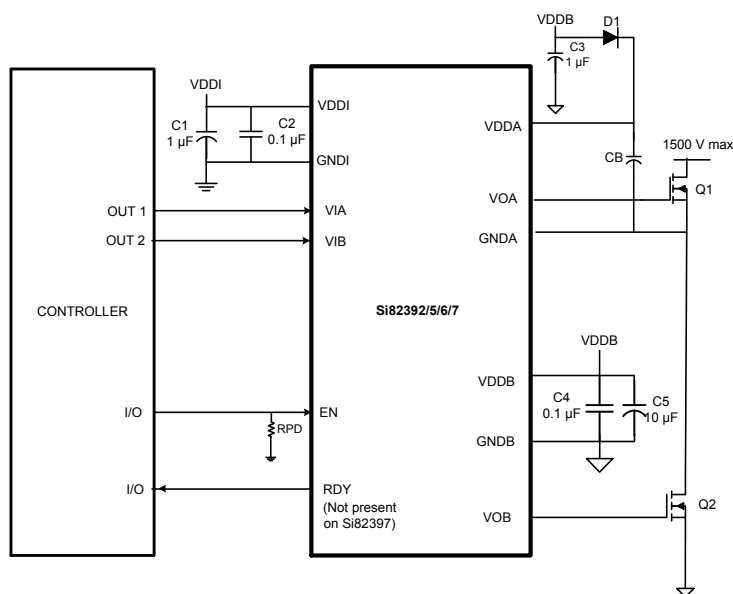

**Figure 3.1. Si82394/8 Application Diagram**
All high-side/low-side drivers (Si82394/8) include programmable dead time, which adds a user-programmable delay between transitions of VOA and VOB. When enabled, dead time is present on all transitions. The amount of dead time delay (DT) is programmed by a single resistor (RDT) connected from the DT input to ground per the equation below. Note that the dead time pin should be connected to GND1 through a resistor between the values of 6 k $\Omega$  and 100 k $\Omega$  and a filter capacitor of 100 pF in parallel as shown in Figure 3.1 Si82394/8 Application Diagram on page 18. It is highly recommended it not be tied to VDD1. See Figure 2.18 Dead Time Waveforms for High-Side/Low-Side Drivers on page 17 below.